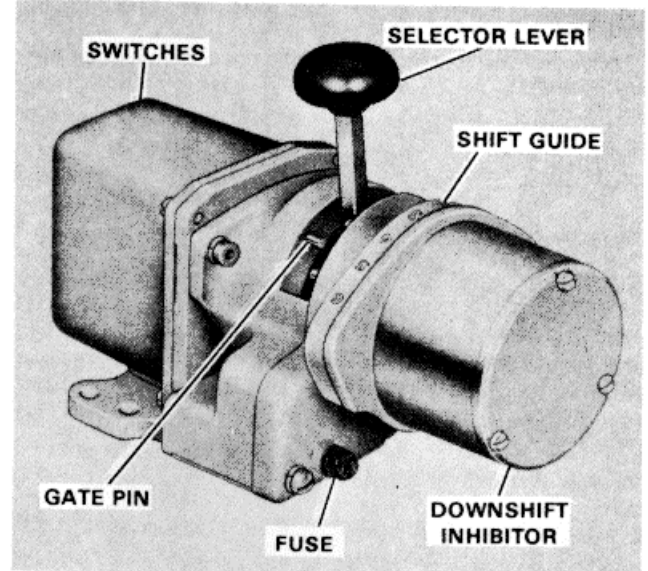

Figure 15-3. Manual-Electric Selector Assembly
1), a manual-electric shift tower in the vehicle cab (Figure 15-3) and wiring harness 81 (B, Foldout 9). Also included is pressure switch 20 (A, Foldout 6) which activates a down-shift inhibitor.
Electrical power for actuation of the control system is supplied by the vehicle electrical system. Electrical components to match the vehicle system voltage are provided in the control system. An integral SFE 9A fuse is provided in the selector assembly (Figure 15-3).